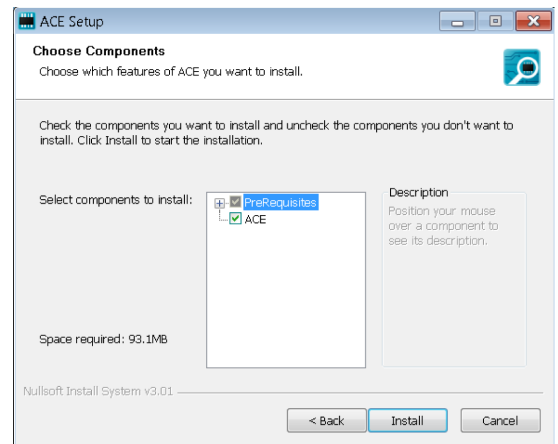

Figure 6. Choose Components
7. The ACE Software components to install are preselected. Click **Install** (see Figure 6).